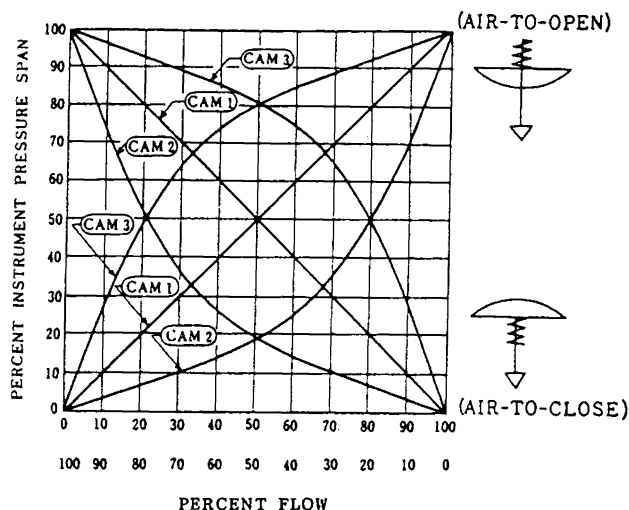

Figure 11. Flow Characteristics and Cam
- (1) To obtain the flow characteristics of control valve.
- (2) To check if valve is "air-to-close" type or "air-to-open" type.
- (3) To refer to Fig. 11 when selecting cam to meet a specific flow characteristic required by process.